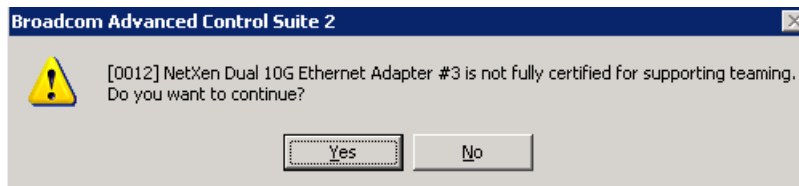

Figure 5-34 Ignore this warning
- Place one adapter in the Load-Balance member group and one in the Standby members group. A warning will display (Figure 5-34) stating that the NetXen Dual 10G Ethernet Adapter is not fully certified. Click **Yes** to continue.